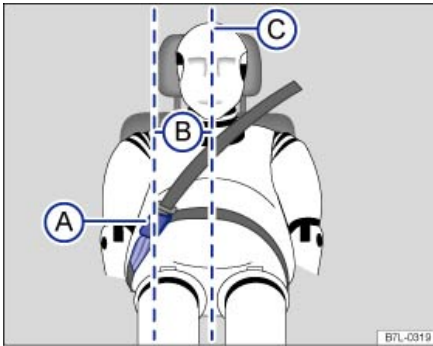

Fig. 60 Positioning of the safety belt extender.
Key to fig. 60:
- Never use a safety belt extender if the distance (B) between the front edge of the safety belt extender buckle (A) and the centerline of the person using the safety belt extender ⇒ **fig. 60 (C)** is less than 6 inches (15 cm).